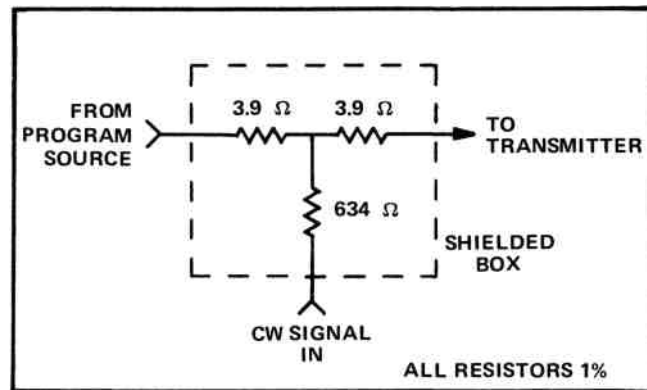

Fig. 2-7. Insertion "T" for in-service low level testing.
1. Prepare a test point where the swept signal can be inserted. This can be a simple T as shown in Fig. 2-7 (supplied with the 1405). Make sure that the internal sync on the 1405 is switched OFF, APL is set to 0, and the AMPL control is set to 101 RE. *Amplitude settings between Wand 20 (equivalent to 1 and 2 IRE through the insertion T) will give the most satisfactory results with minimum picture impairment.*